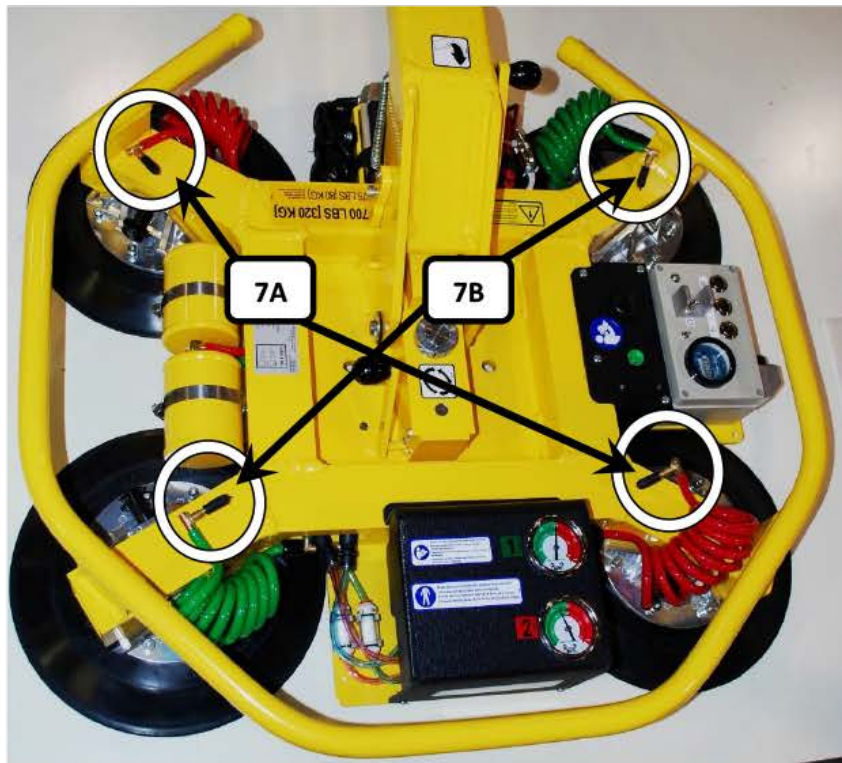

FIGURE 7
See **FIGURE 7**.
11) If it was determined that the leak is in one or more of the pad fittings or the coiled hose, reattach one section of coiled hose to its corresponding coupling, cap off the pad fitting and retest. Refer to **FIGURE 7** but reconnect only one section of coiled hose to a hose coupler at a time.